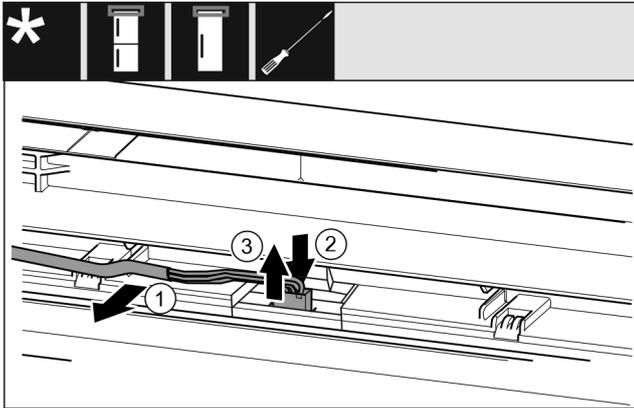

Fig. 10
- ▶ Release the grey cable from the guide in the door carefully. Fig. 10 (1)
- ▶ Push the tab behind the plug backwards. Fig. 10 (2)
- ▶ Pull the plug out upwards carefully. Fig. 10 (3)